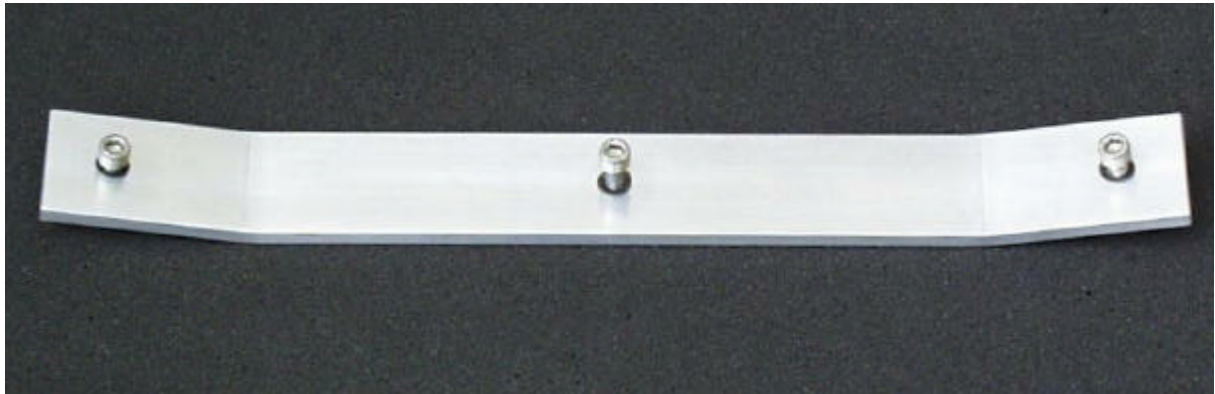

Figure 4: Front bar (part 6) to connect inner conductor with LP-structure.
**Step 2:** The front section is assembled according to fig. 2, fig. 3 and fig. 4 using the square shaped aluminium block and two INBUS-screws. The flat aluminium bar is connected to the inner conductor and the two LP-wings using 3 INBUS screws.